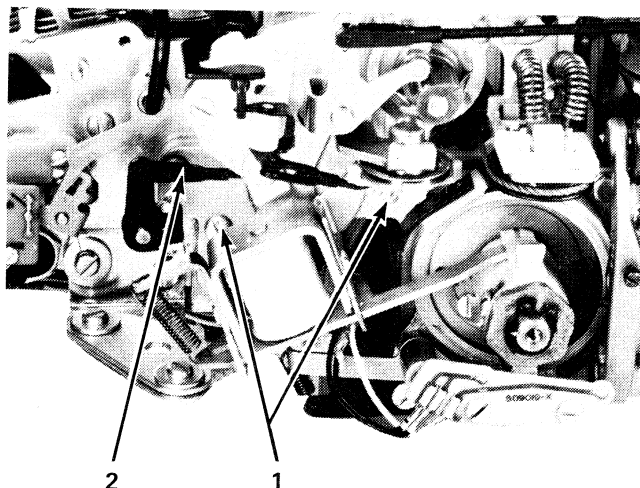

Figure 4-57. Keyboard Removal (Right Side of Printer)
8. Remove the two screws (No. 1, Figure 4-57) and remove the shift magnet assembly.
9. Remove the filter shaft cam trip link (No. 2, Figure 4-57).